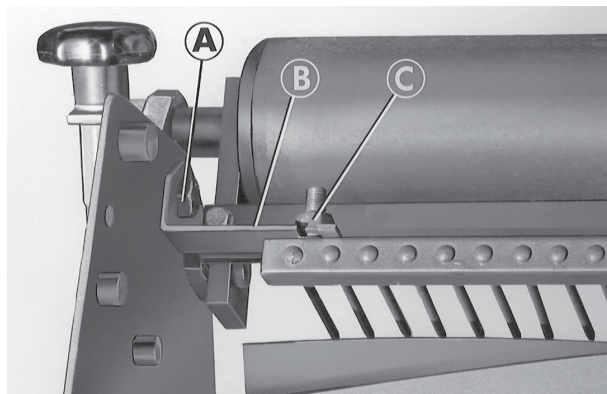

Fig. 9.1
9.1 BRUSH AND COMB SET (Fig. 9.1)